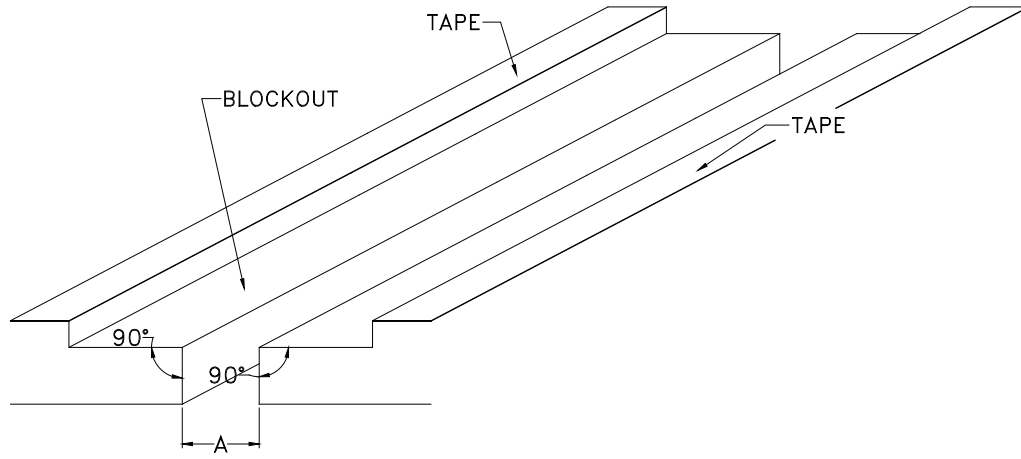

Figure 4
- STEP 2.** Apply blue tape to the deck surfaces adjacent to the blockout. Balco, Inc. also recommends that Kraft paper be used in conjunction with the blue tape to protect the concrete surfaces from tack coat and elastomeric concrete splatter, spills, tracking, etc. (see Figure 4).